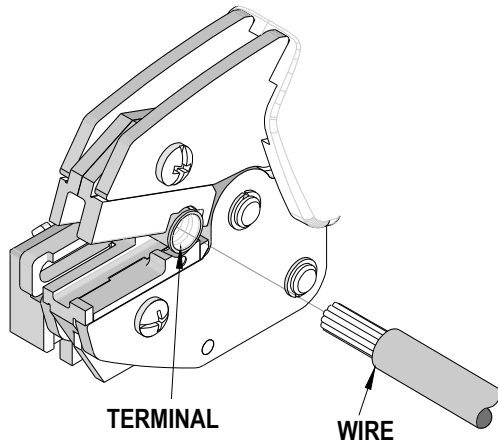

Figure 2
2. Partially close the tool to hold the terminal in place. See Figure 2.
3. Insert the properly stripped wire into the terminal barrel. See Figure 2 and 3. The wires end should butt against the wire stop position of the locator.